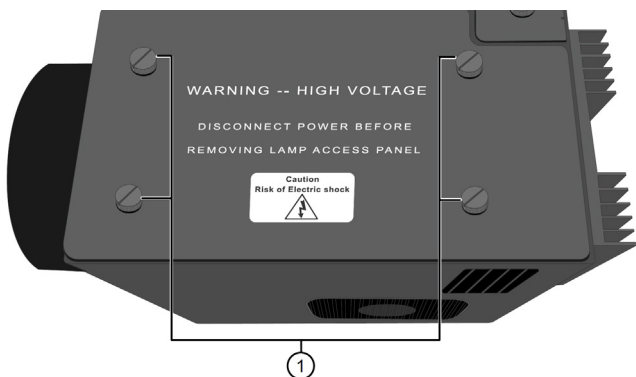

Figure 29 Four bolts
1. Unscrew four bolts. (Figure 29)